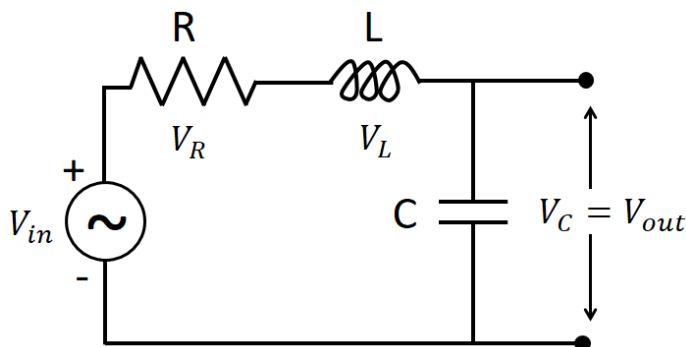

Fig: 3.2: RLC circuit for the experiment.
1. Connect the circuit as per Figure 3.2 on breadboard using connecting wires.
3. Connect one channel of the oscilloscope across the inductor (L) and the other channel with input.
7. Connect one channel of the oscilloscope across the capacitor (C) and the other channel with input.